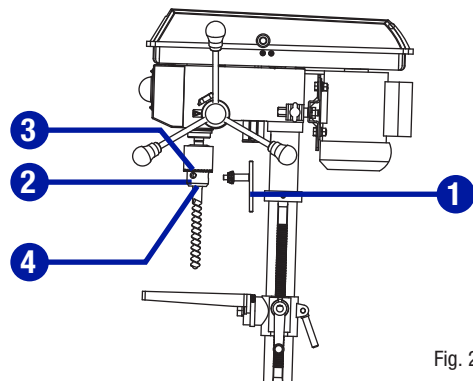

Fig. 22
**INSTALL DRILL BITS (Fig. 22)**
- Place the chuck key (1) into the side keyhole of the chuck (2), meshing the gear teeth (3).
- Turn the chuck key counter-clockwise to open the chuck jaws (4).